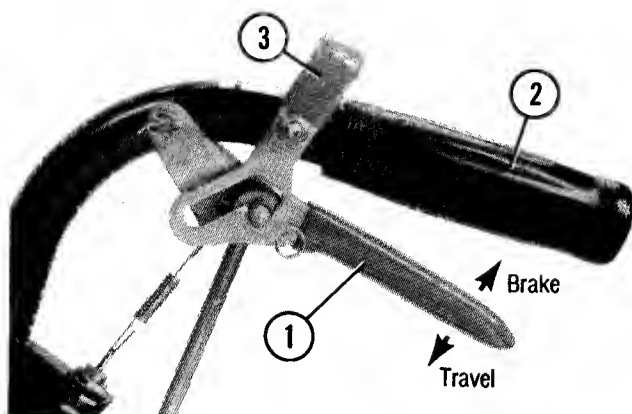

Figure 11 Drive Lever
### Drive Levers (Fig. 11)
To lock drive levers in neutral position, pull back on the thumb latches, then release the levers so they catch as shown in Fig. 11.
Use the thumb latches to lock the drive levers in "Neutral Lock" position (see Fig. 11), then move throttle control lever to "Stop" position. Units with Kawasaki engine turn "shut-off" switch to "off" position.
- B. Use thumb latches to lock the drive levers into "Neutral Lock" position (see Fig. 11).